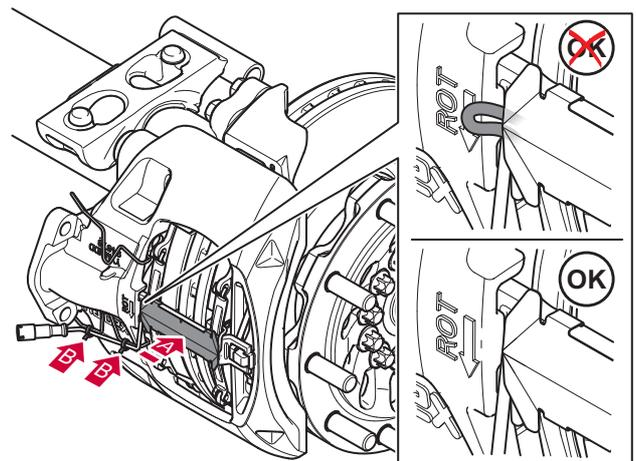

Figure 111. PWI cable to the retainer
9. Fit the PWI cable to the retainer so that the cable will not be cut, fit the cover plate. See figure 111.